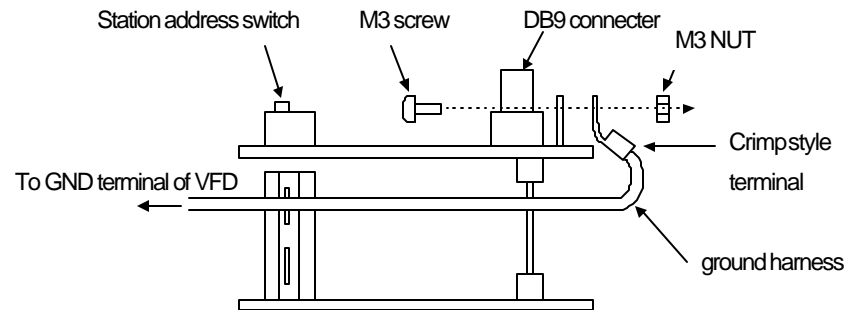

Figure 5 Ground harness connection
6. To ensure proper Network Grounding, connect a harness (NOT Supplied) from FR-A5NM Ground terminal to VFD Ground terminal. For ease of routing, the harness should be passed between the Top and Bottom board. (Refer to Figure 5).